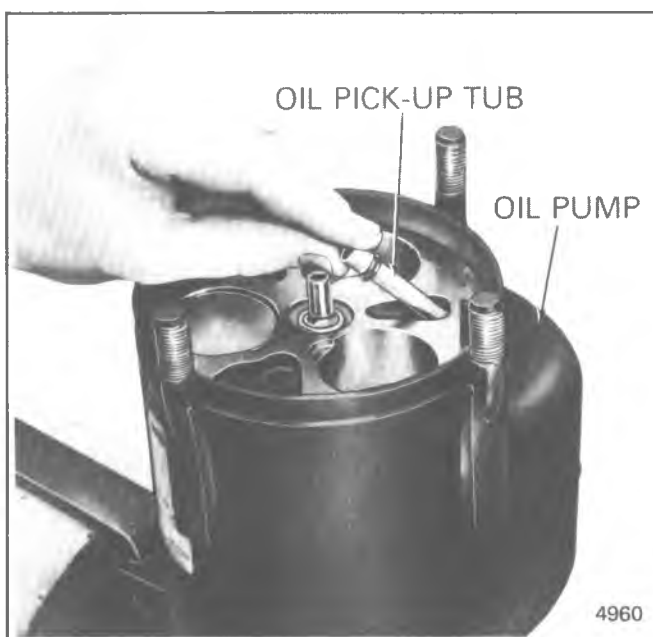

Fig. 1D-69 Installing A-6 Oil Pick-up Tube
15. Now install new O-ring and bushing on **rear-end** of discharge cross-over tube (See Fig. 1D-58).